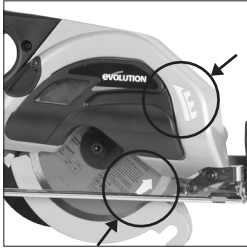

Fig. 4
- Ensure that the direction of rotation arrows printed on the blade match the direction of rotation arrow found on the chip collector. **(Fig. 4)**